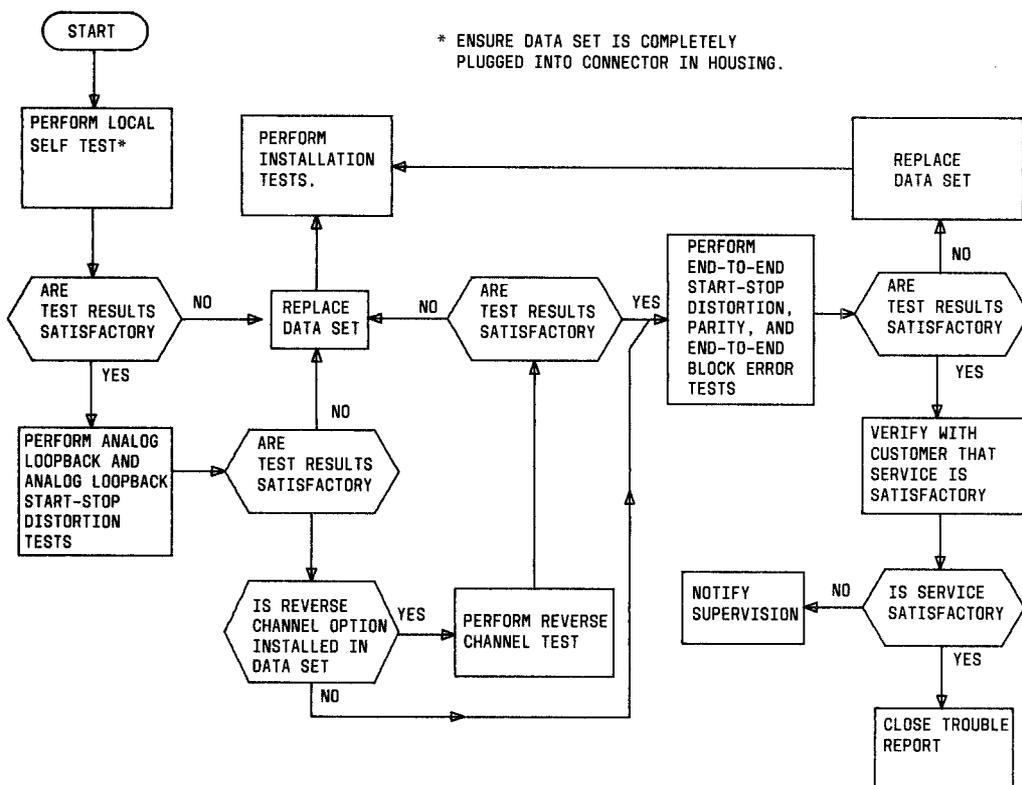
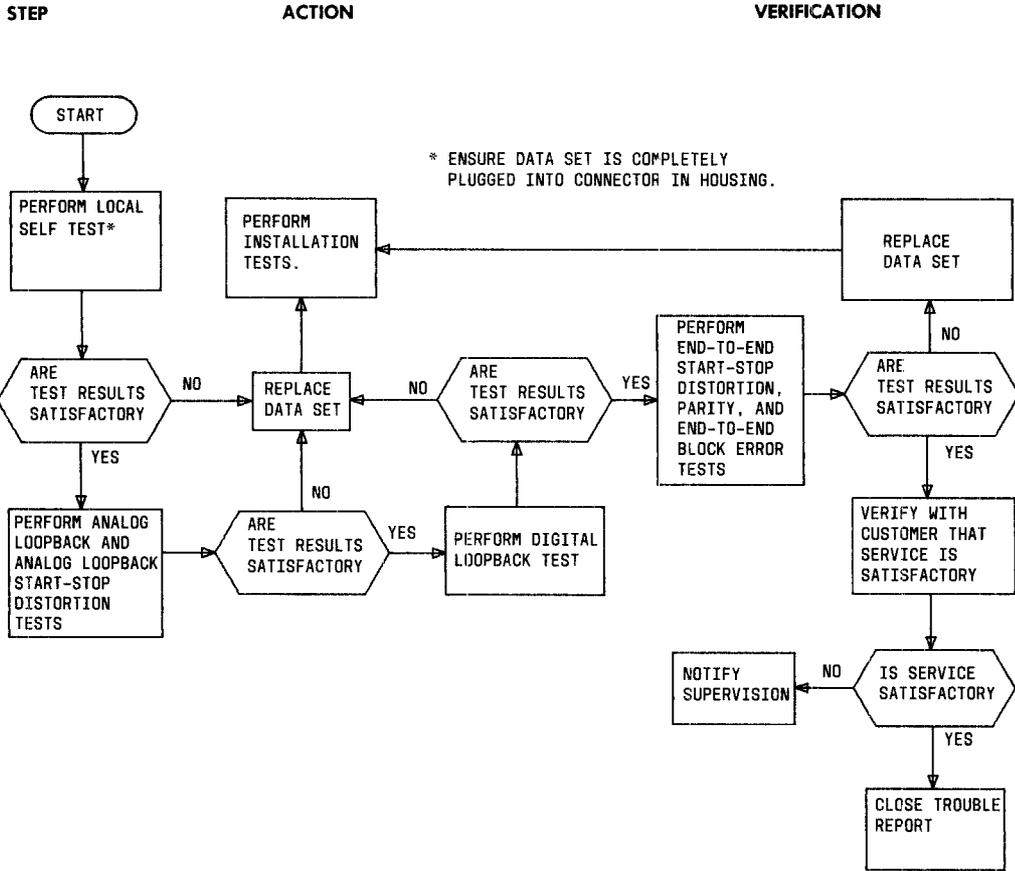

Fig. 5—Maintenance Test Sequence (2-Wire Private Line)
Fig. 6—Maintenance Test Sequence (4-Wire Private Line)
3.04 Refer to Fig. 5 (2-wire private line) and Fig. 6 (4-wire private line) for the sequence in which tests are to be performed by the telco employee at the data station. If the data set is replaced, the defective data set should be tagged with a description of the trouble, carefully packed, and returned to the service center for repair. Verify that the replacement data set is equipped with the proper options before placing the data set in service.